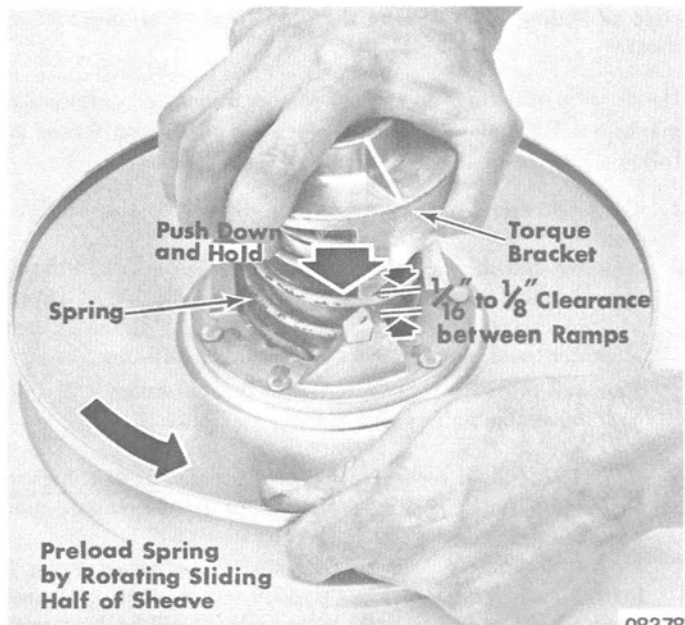

Figure 4. Installing Torque Bracket
4. Compress spring until  $1/16''$  to  $1/8''$  (1.6mm to 3.2mm) clearance is obtained between ramps. (Figure 4) With no preload on spring, ramps should be "tip-to-tip", as shown in Figure 4. If ramps are not properly positioned, re-insert return spring "tang" in a hole in sliding sheave which will allow desired alignment between ramps.
5. Rotate sliding half of sheave two (2) ramps ( $2/3$  turn,  $240^\circ$ ) to apply preload to spring. (Figure 4) Press torque bracket below groove in splined spindle and install retaining rings in groove. (Figure 3)